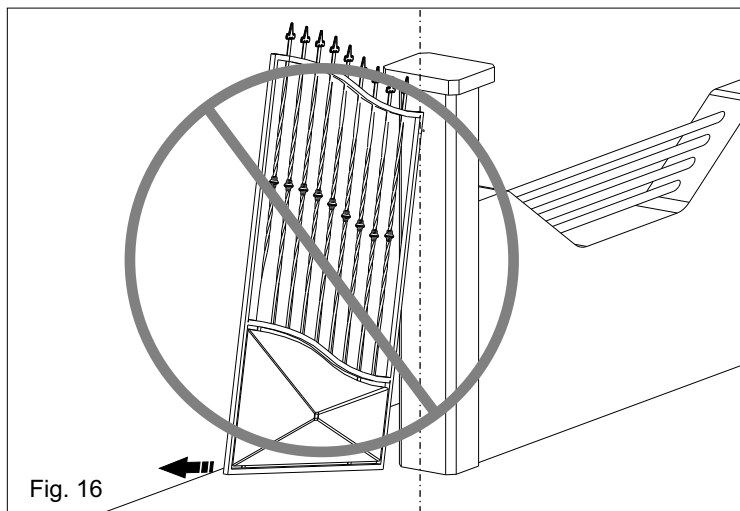

Fig. 16
4.3. Be careful not to place the leaf outside the axis (Fig. 16 and 17) and make sure that the shaft corresponds to the rotation axis of the jack.